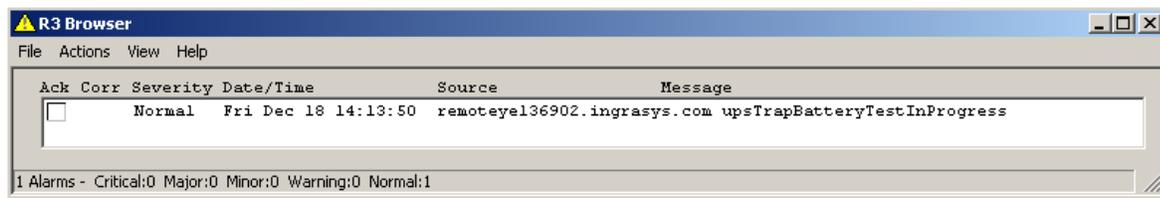

Figure 50: SNMP Trap Example
2. Click on *Modbus TCP Configuration*. The Modbus configuration window will open. See Fig. 50.
3. Verify the Modbus configuration is correct. The default settings are show in Figure 50. If unsure of the available options, click the HELP button.